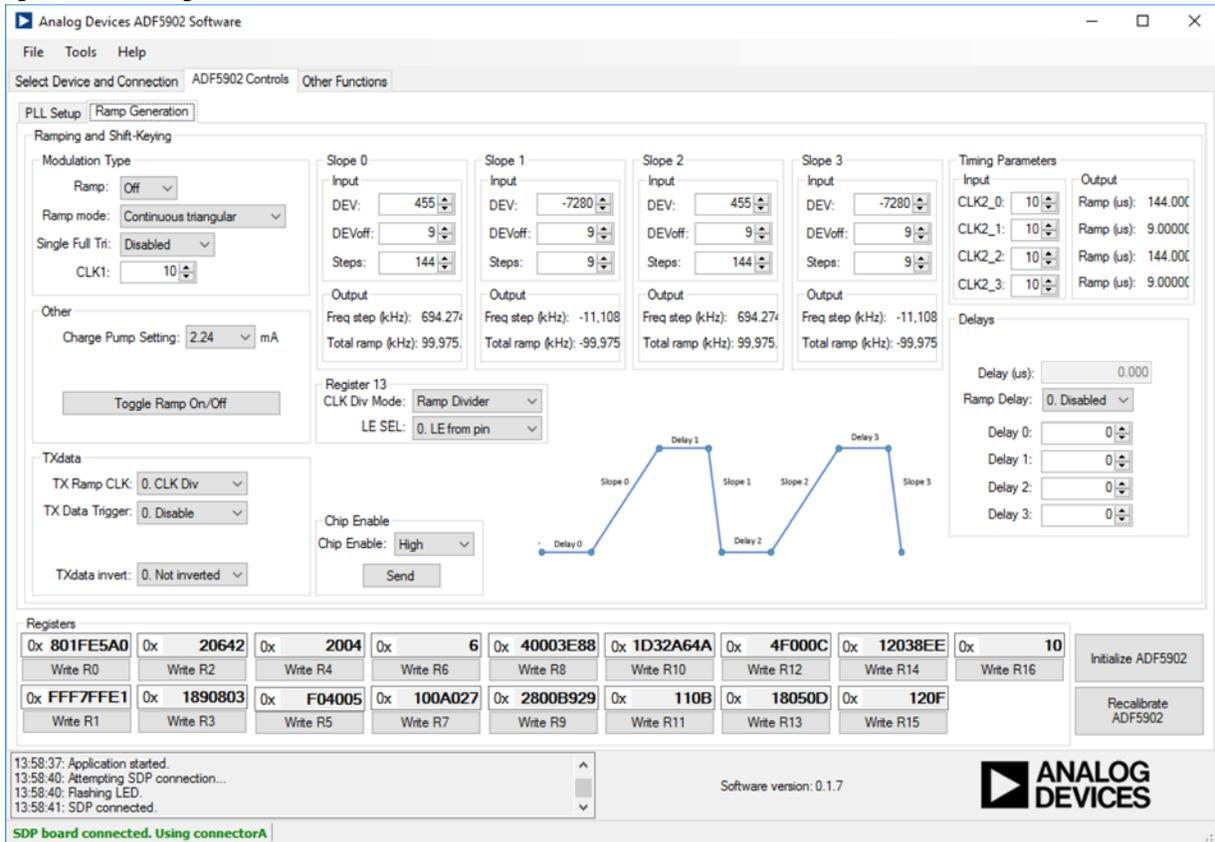

Figure 5. PLL Software Window Display, ADF5902 Ramps Generation
1. Click the **Ramp Generation** tab in the PLL software window (see Figure 5).
Figure 5 shows an example of the ramping settings for a continuous triangular ramp of 144 ramp steps over 200 MHz at the ADF5902 transceiver output, with a ramp time of 5 ms. For 200 MHz, the PLL is programmed for a 100 MHz ramp because the feedback to the PLL is divided by two.